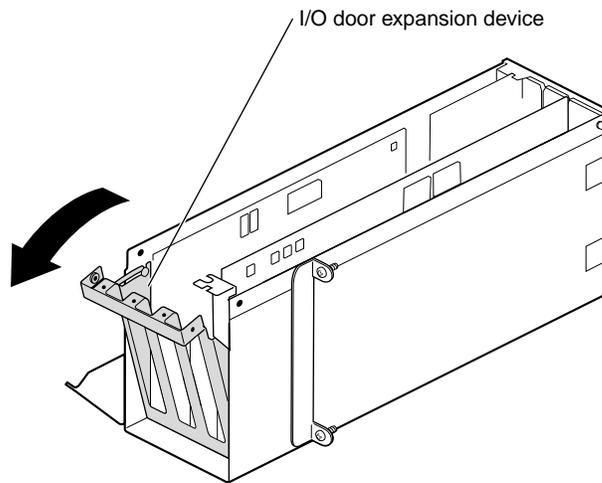

Figure 4-22 Opening the I/O Door
3. Slide open the I/O door to expand the PCI module, as shown in Figure 4-22.